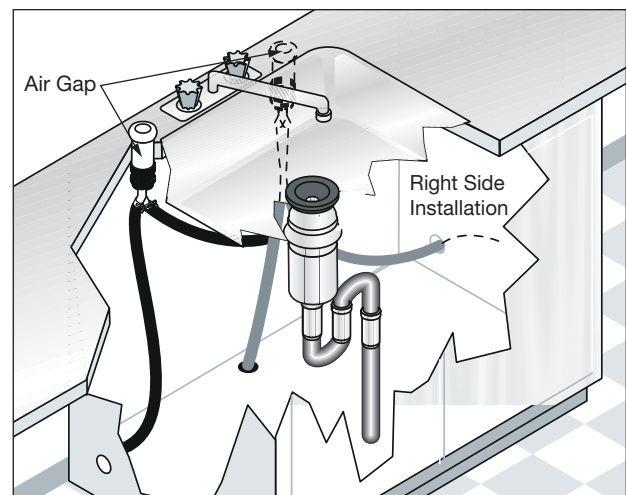

Figure 2-14. Installation Diagram
3. If you connect to a sink trap, local codes may require you to install an air gap kit, (not included). The drain hose will be routed from dishwasher to air gap inlet as shown in Figure 2-14. An air gap kit is available from a plumbing supply store. (If the drain hose is installed through the floor, an air gap is necessary).
4. If you connect to a disposer, the large end of drain hose will fit. (See Figure 2-14) The knock out plug must be removed from inside disposer inlet before making the final fit to drain hose.